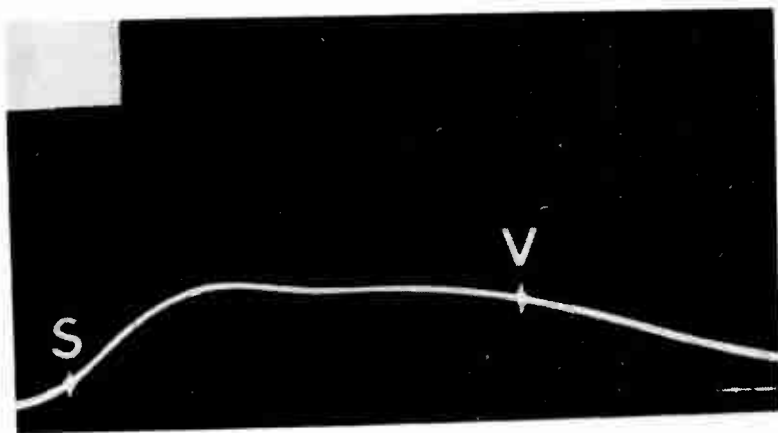

Fig. 3-5. Video marker too high on the response, and sound possibly too low.
9. Video i-f too high on the gain curve (Fig. 3-5) causes excessive input to the video detector at the lower video frequencies. Then high video frequencies, which carry fine details for pictures, may be weakened unless bandwidth is unusually great. Sound may be weakened due to the sound intermediate going too low on the gain curve when the video intermediate is high.